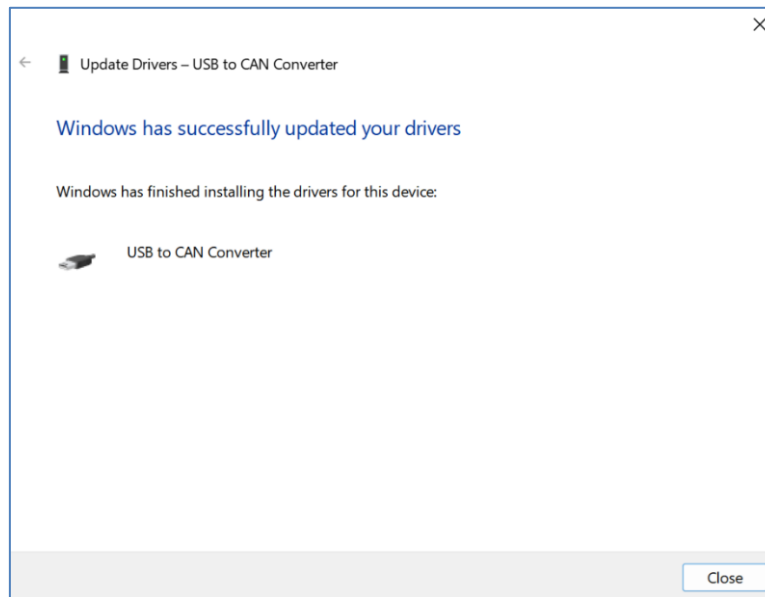

Figure 9. Driver Installation. Successful Installation Message
4. Press the *Next* button to install the driver. The following message should appear, telling the user that the driver installation was successful, see Figure 9.